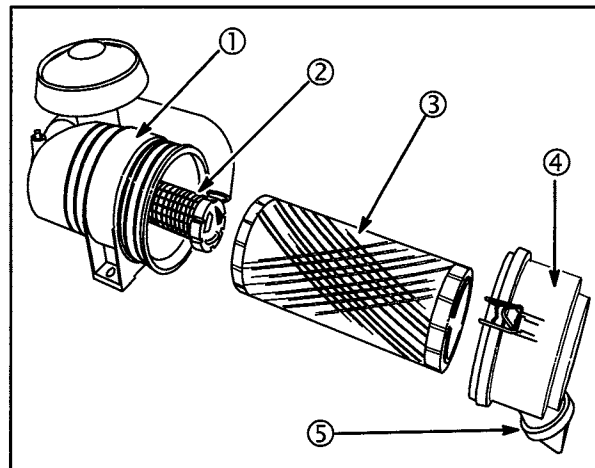

Fig. 4
1. Remove debris from the air cleaner by squeezing the ends of the debris valve (5), **Fig. 4**.